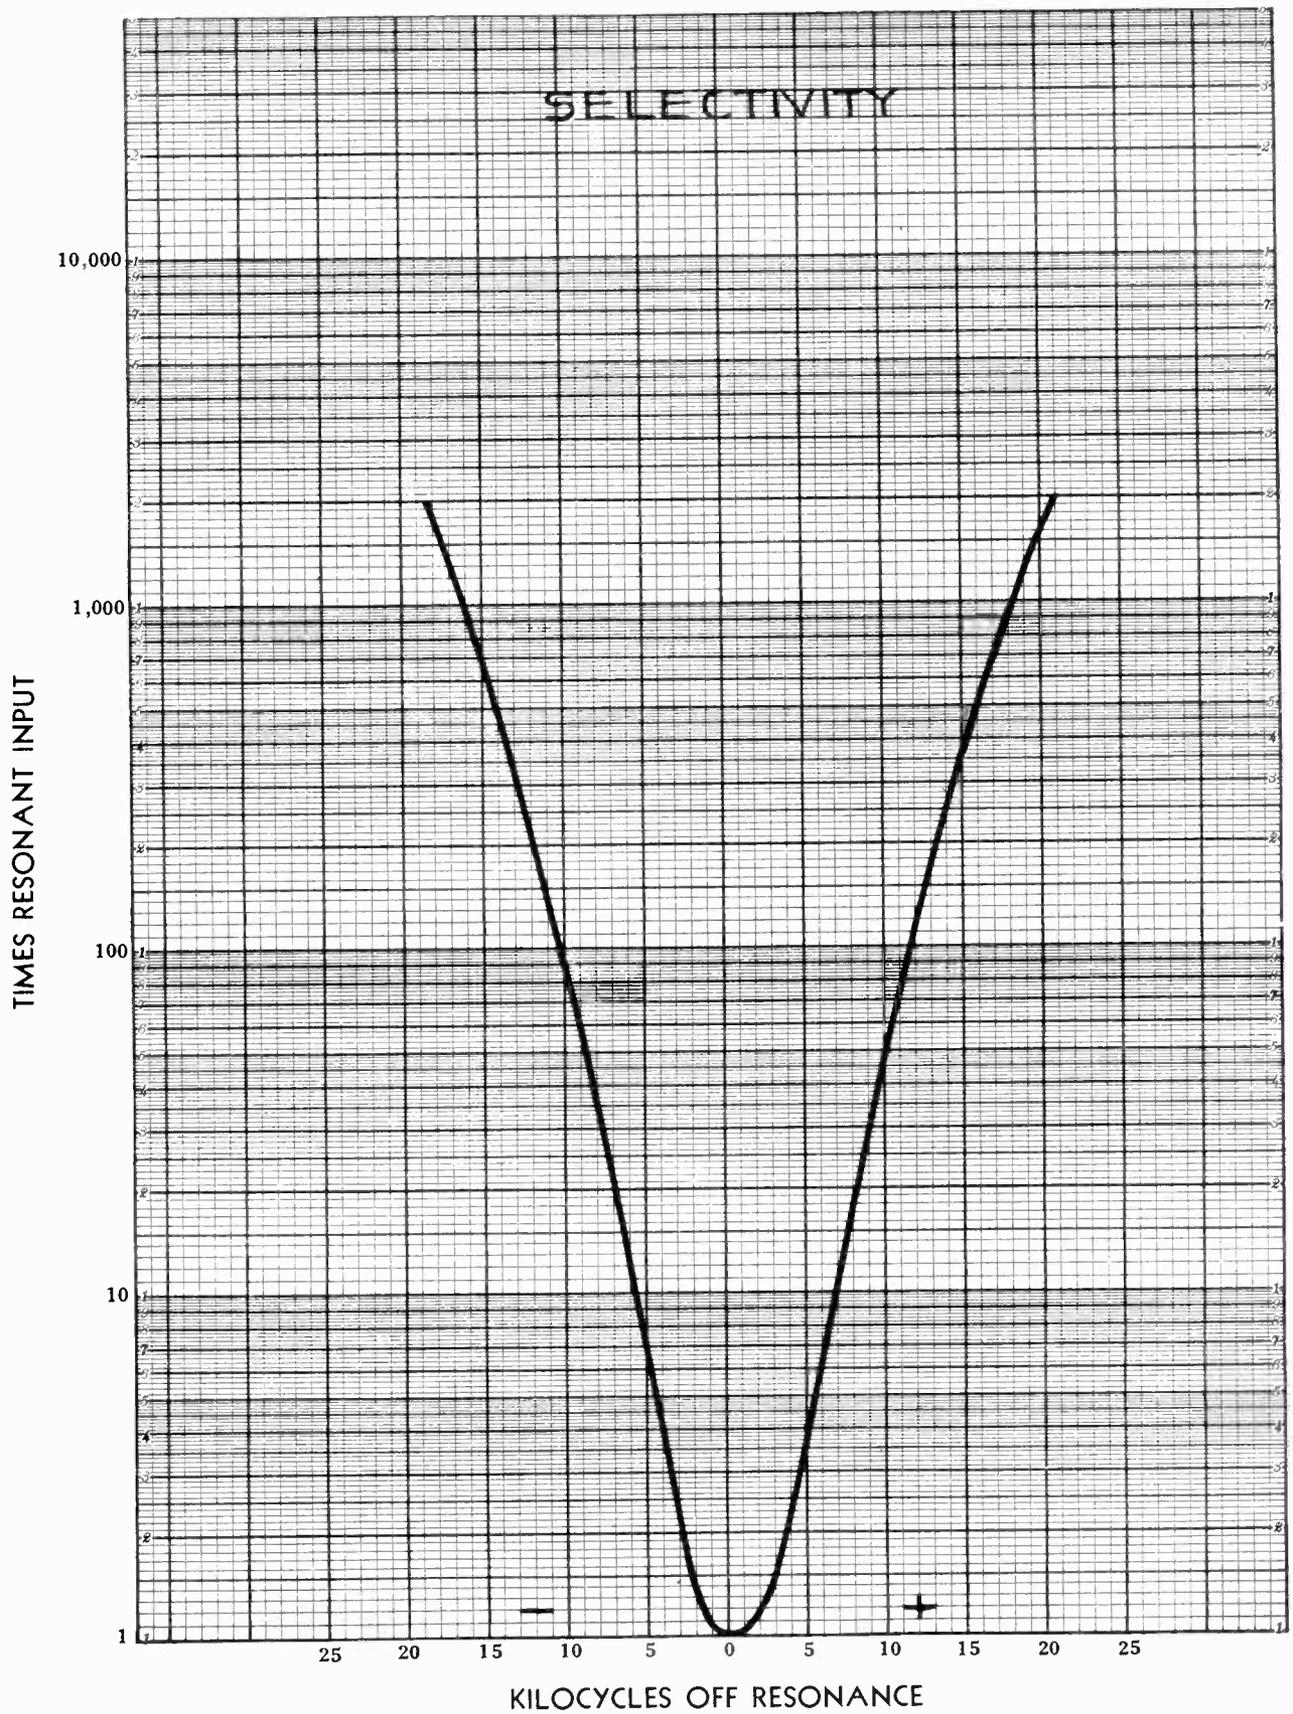

Figure 16—Selectivity Curve
**Selectivity**.—The Selectivity curve for the average ACR-155 receiver is shown on page 21, Figure 16.